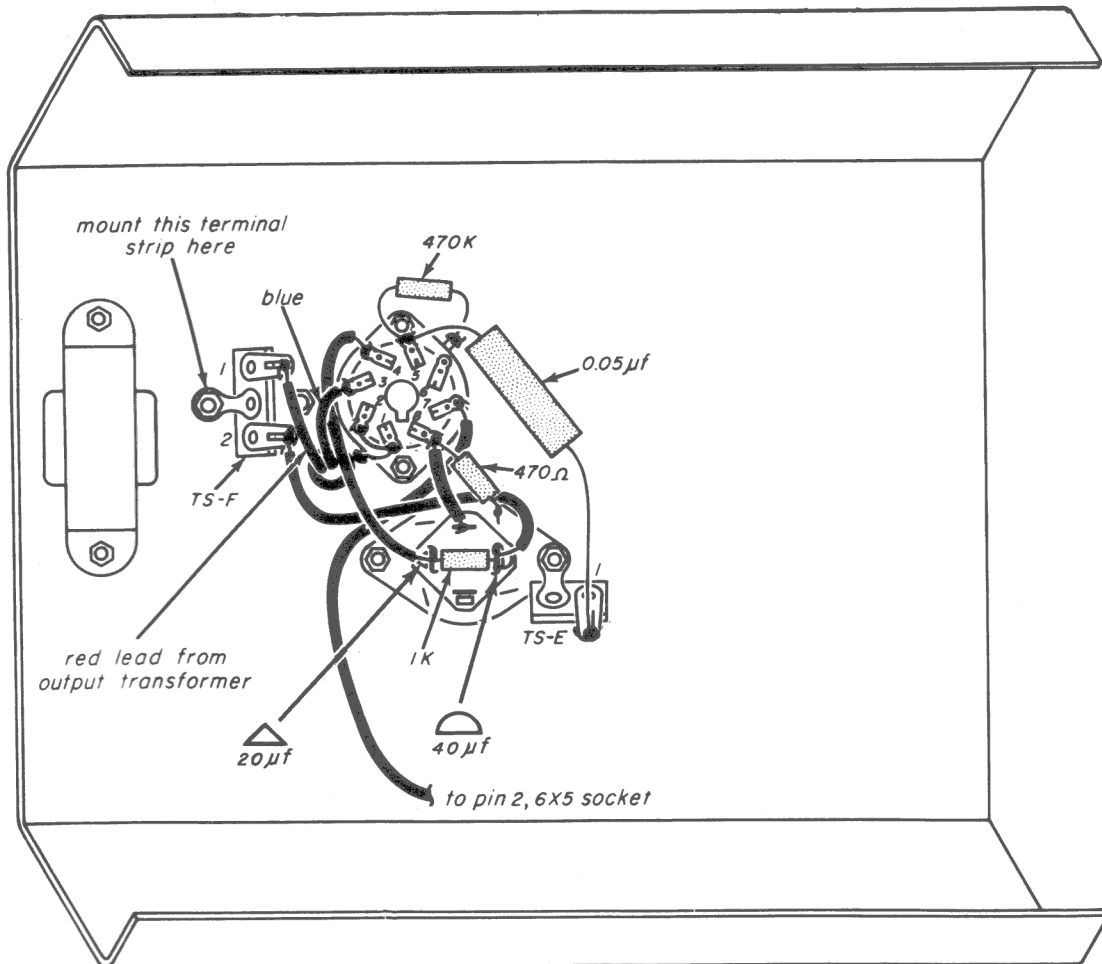
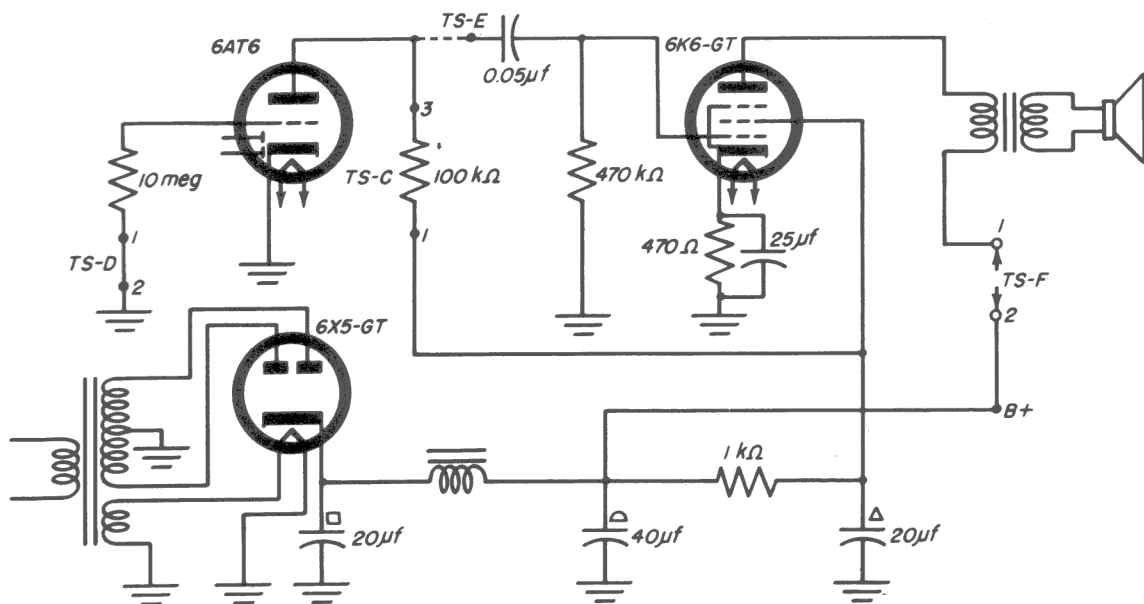

Fig. 24-1
Fig. 24-2
Step 2. Disconnect the 1,000-ohm resistor at TS-B, and connect it across the electrolytic capacitor terminals marked with a $\triangle$ and a $\bigcap$, as shown in Fig. 24-1.
Step 9. Mount the speaker on the chassis, using two 6-32 x 1/4-inch screws and hex nuts, but do not tighten the screws completely. At the same time install a 2-lug terminal strip underneath the chassis using one of the speaker mounting screws to hold it as shown in Fig. 24-1. This terminal strip will be referred to as TS-F. Label it on your chassis.
in Fig. 24-1, and keep it down close to the chassis.
When you have finished this wiring, your new wiring should look like that shown in Fig. 24-1, in which the new wiring added in Job 24-2 is shown. A schematic diagram of this circuit is shown in Fig. 24-2.
pare them with the voltages given. If they do not agree within $\pm 20\%$, unplug the line cord and recheck your wiring against Fig. 24-1.